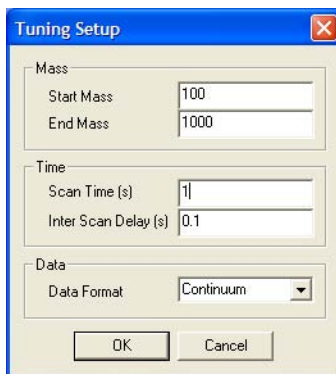

Figure 5-10 Tuning Setup Dialog Box
14. Select Peak Display > Setup Scope to open the Tuning Setup dialog box. Ensure the values match those in Figure 5-10.
8. Select Peak Display > Setup Scope to open the Tuning Setup dialog box. Ensure the values match those in Figure 5-10.